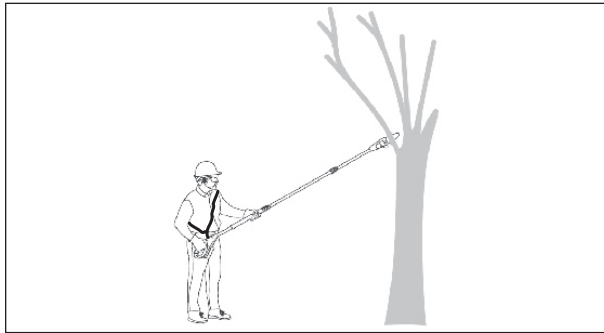

Fig. 18a
- a). Always hold the product firmly with both hands on gripping surface, and use the shoulder strap (A12) . Never operate this product using only one hand. (See Fig. 18a)